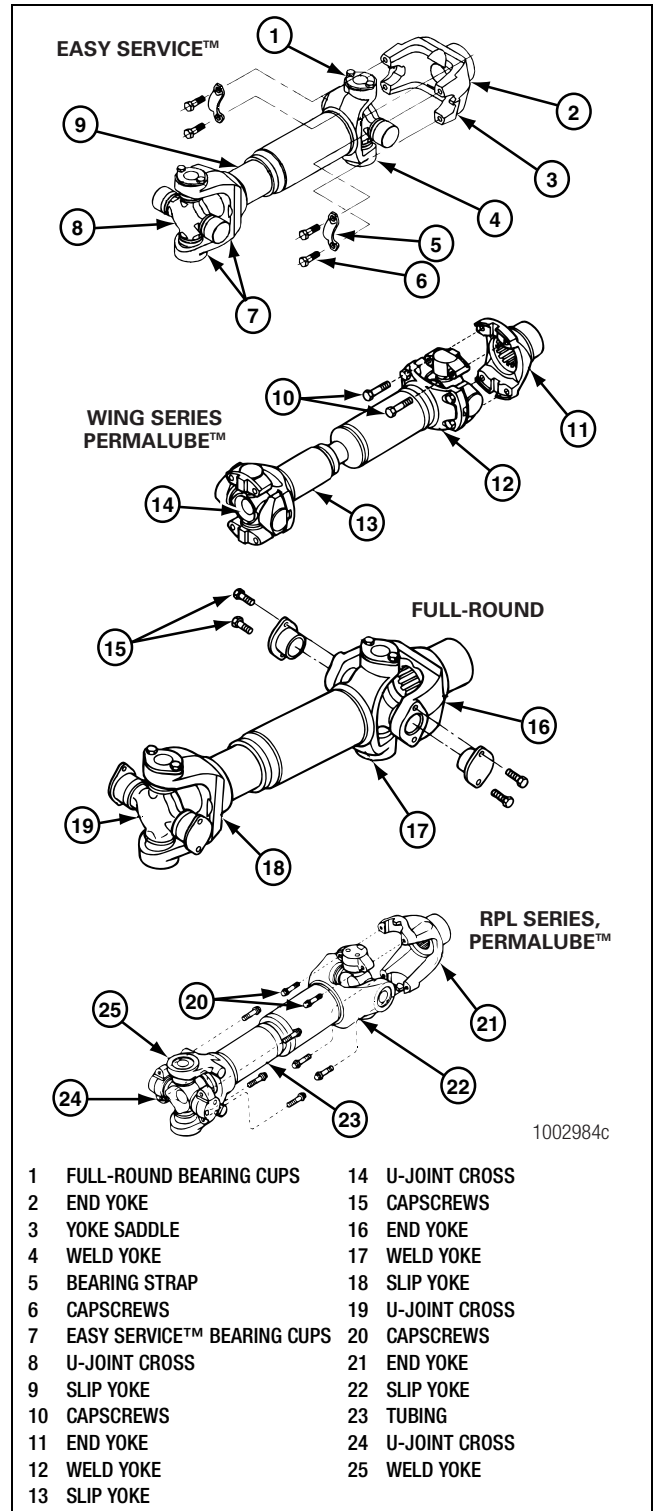

Figure 3.5
8. Disconnect the driveline universal joint from the pinion input yoke or flange on the carrier. Figure 3.5.